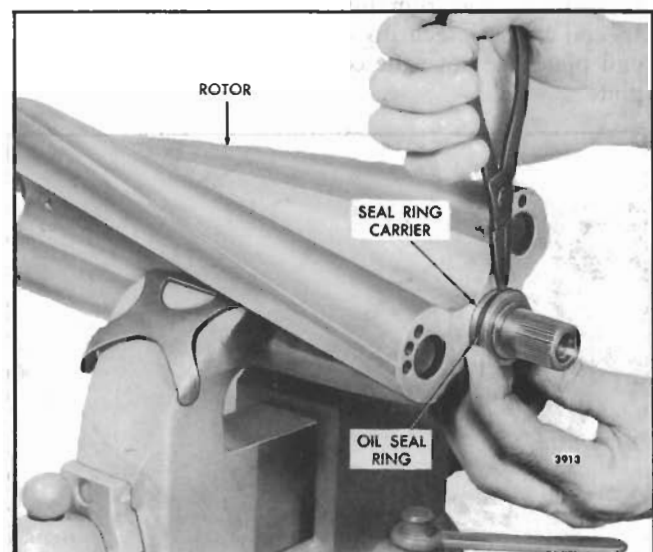

Fig. 7 - Removing Oil Seal Ring from Carrier (Turbocharged Engine Blowers)
- a. Clamp one lobe of the rotor in a **bench vise** equipped with soft jaws (Fig. 7). Tighten the vise just enough to hold the rotor stationary.
- b. Remove the oil seal ring from the seal ring carrier on each blower rotor shaft with a pair of snap ring pliers as shown in Fig. 7.
- e. Install an oil seal ring in the ring groove of each carrier with a pair of snap ring pliers in the same manner as shown in Fig. 7.